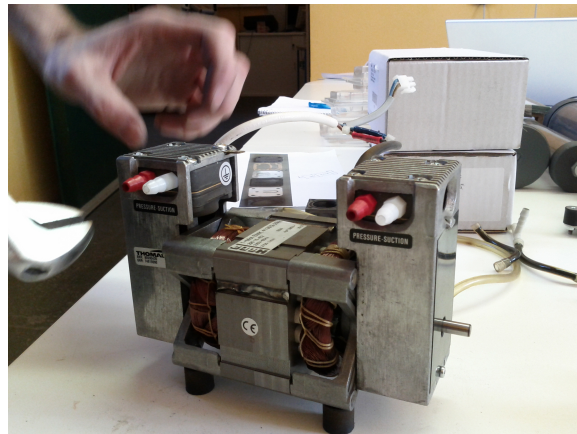

Figure 3.22: Install the red and white plugs
11. Reconnect the plastic plugs to the pump. Figure 3.22 shows the correct color assignment (Red: outlet, White: inlet). Please note that these plugs might break if they are applied with too much force.